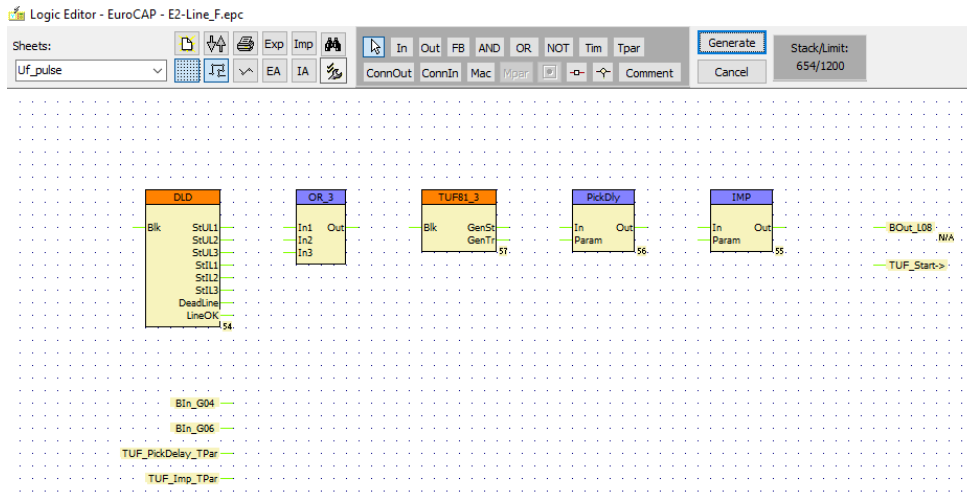

Figure 7-7 Example for placing the elements on an empty sheet
- The equation needs two binary inputs and one binary output. Select them using the **In Out** icon. The selected inputs are “BIn\_G04” and “Bin\_G06” found on the dropdown list, the selected output is “Bout\_L08” (See Figure 7-7). It is also possible to put down more inputs or connector inputs at the same time with the use of Shift or Ctrl keys in the input selection and in the connector input selection windows.
The result of these steps is shown in *Figure 7-7*. Here the icon  is depressed: the grid is visible on the sheet. The location of the elements can be altered using the drag-and-drop technique.
As Figure 7-7 shows, the elements placed have green connection points. Draw a line by clicking on a green start point, clicking on the required corners and clicking on the green end point. A finished line and corners can be rearranged using the drag-and-drop technique. (The line can also be deleted.)